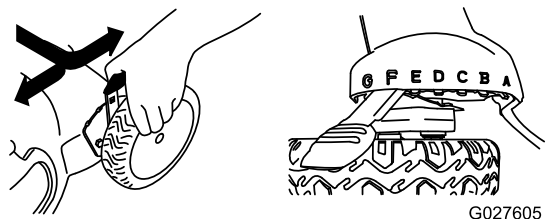

Figure 14
**Note:** To raise the machine, move all 4 cutting height levers forward; to lower the machine, move them all rearward (Figure 14).